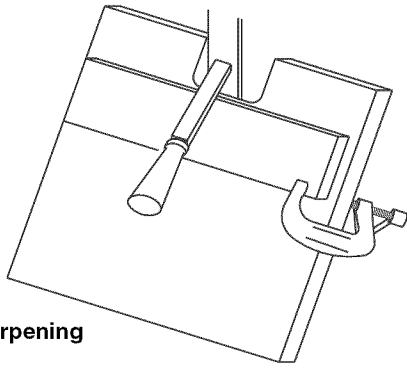

Figure 7 - Sharpening
Refer to Figures 7 and 9, pages 6 and 10.
Refer to Figure 7, page 7.
- Using a C-clamp, attach auxiliary piece of wood to table. It acts as a support while sharpening (see Figure 7).